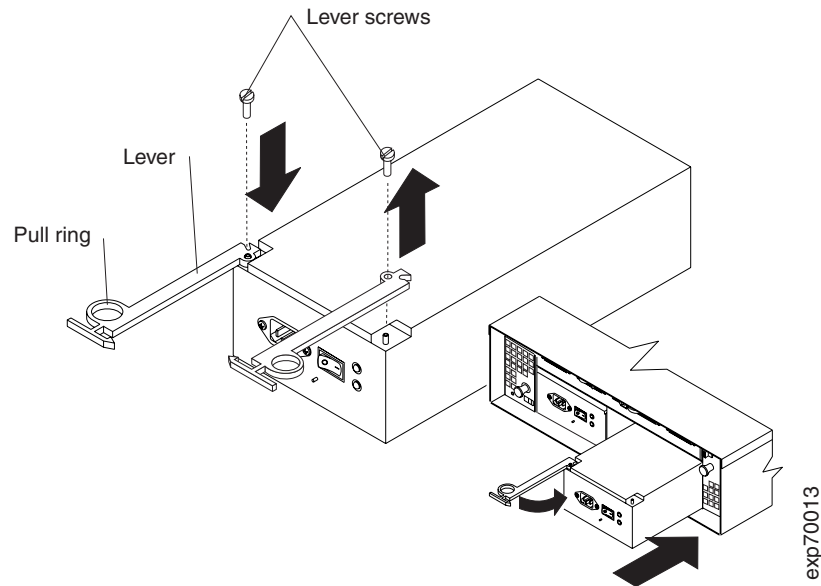

Figure 60. Moving the power-supply lever and replacing the failed hot-swap power supply
Note: When you replace the failed power supply, ensure that the new power-supply lever is attached to the side of the power supply that faces the middle of the storage expansion enclosure. If it is not, remove the lever screw, flip the lever over, and tighten the screw on the opposite side as shown in Figure 60 on page 81.
- a. Slide the power supply into the storage expansion enclosure. Be sure the lever is pulled straight out as you slide the power supply into the storage expansion enclosure (see Figure 60).